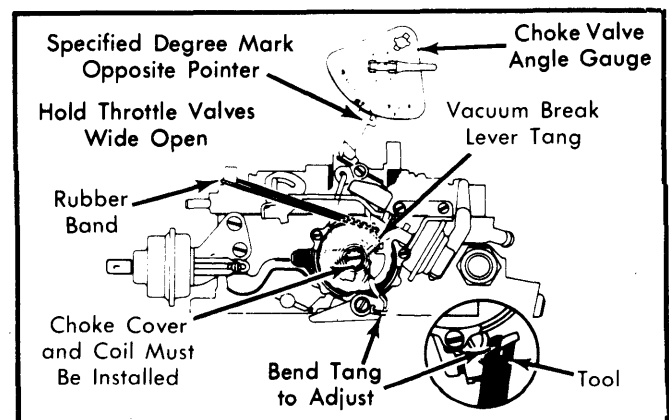

Fig. 11 Adjusting Choke Unloader
1) If removed, install choke thermostatic cover and coil assembly on housing, using special rivets in service kit. Hold throttle valves wide open. See Fig. 11.